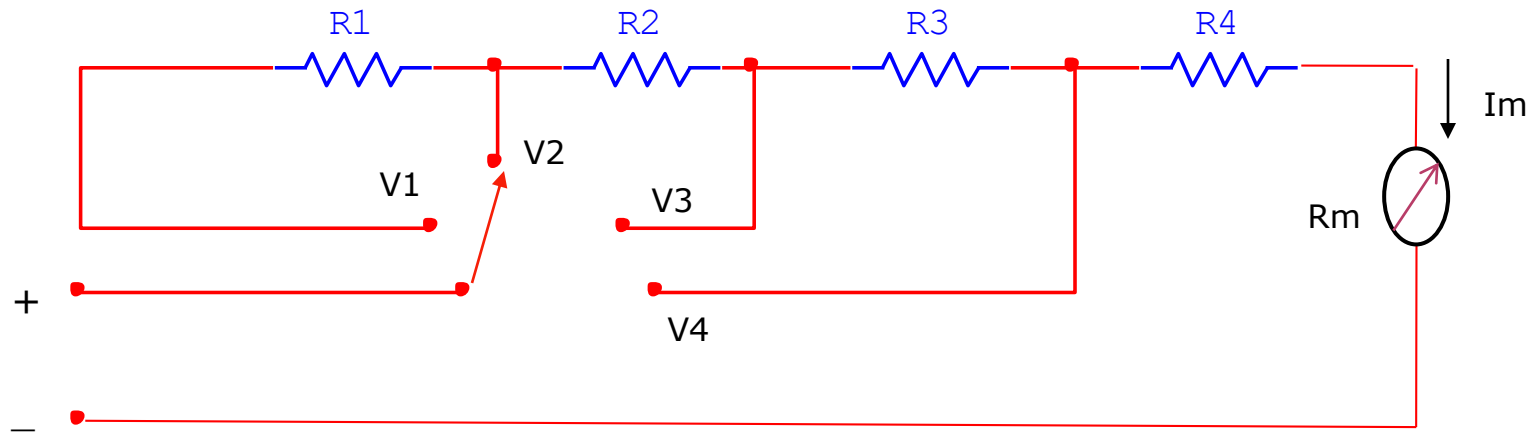

Figure 2.6: Multirange voltmeter
- A practical multi-range DC voltmeter is shown in Figure 2.6.